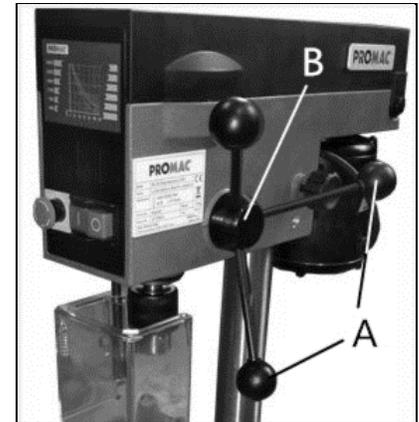

Fig 4
Install three down feed handles (A, Fig 4) into the down feed hub (B).